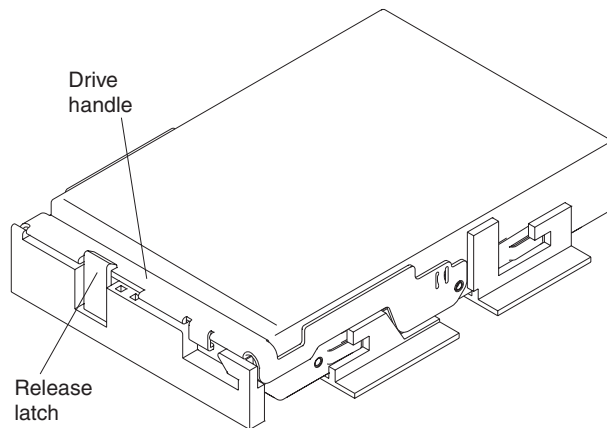

Figure 56. Locking the disk drive in the connector
3. Lower the disk drive straight down; then, rotate the drive handle down until the drive snaps into place under the release latch, as shown in Figure 56.